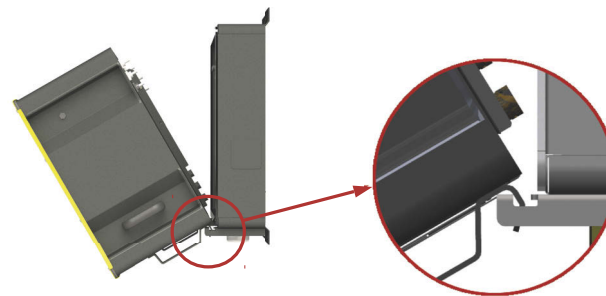

Fig. 17: Attach the inverter to the Connection Box
2. Carefully insert the inverter into the device holder of the Connection Box (see Fig. 17).